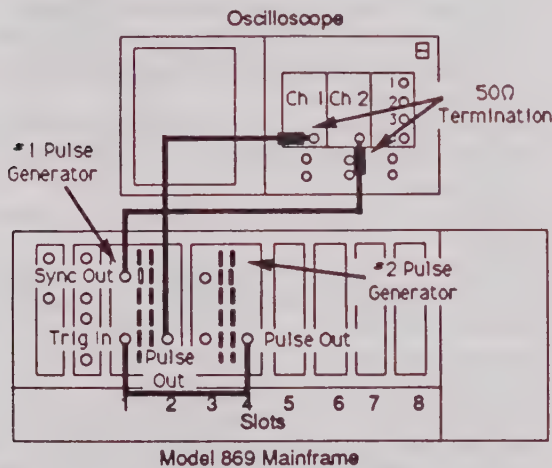

Figure 2-7. Timing Measurement Hookup
9. Connect the channel one pulse output to the digitizing oscilloscope listed in table 2-8, using the configuration shown in figure 2-7.